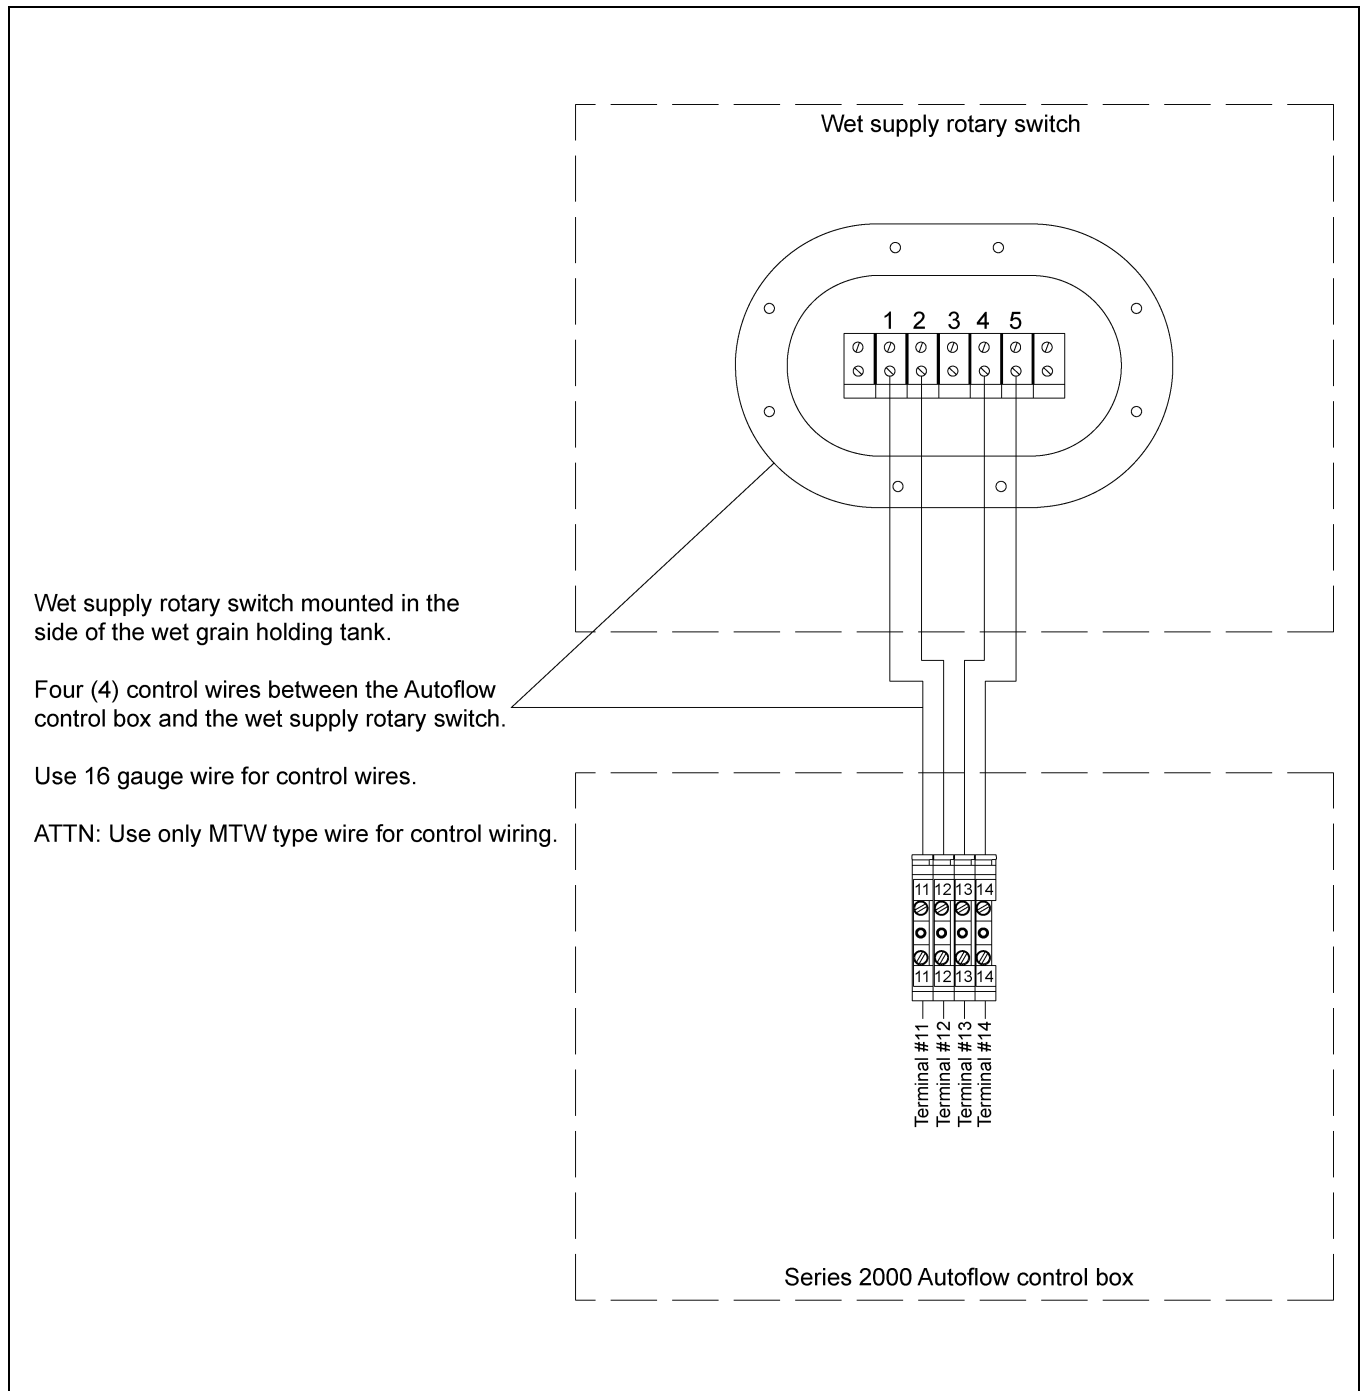

Figure 4G
1. Run four (4) control wires from the Autoflow control box to the Wet Supply Rotary switch.
2. Connect the wires as shown in Figure 4G.